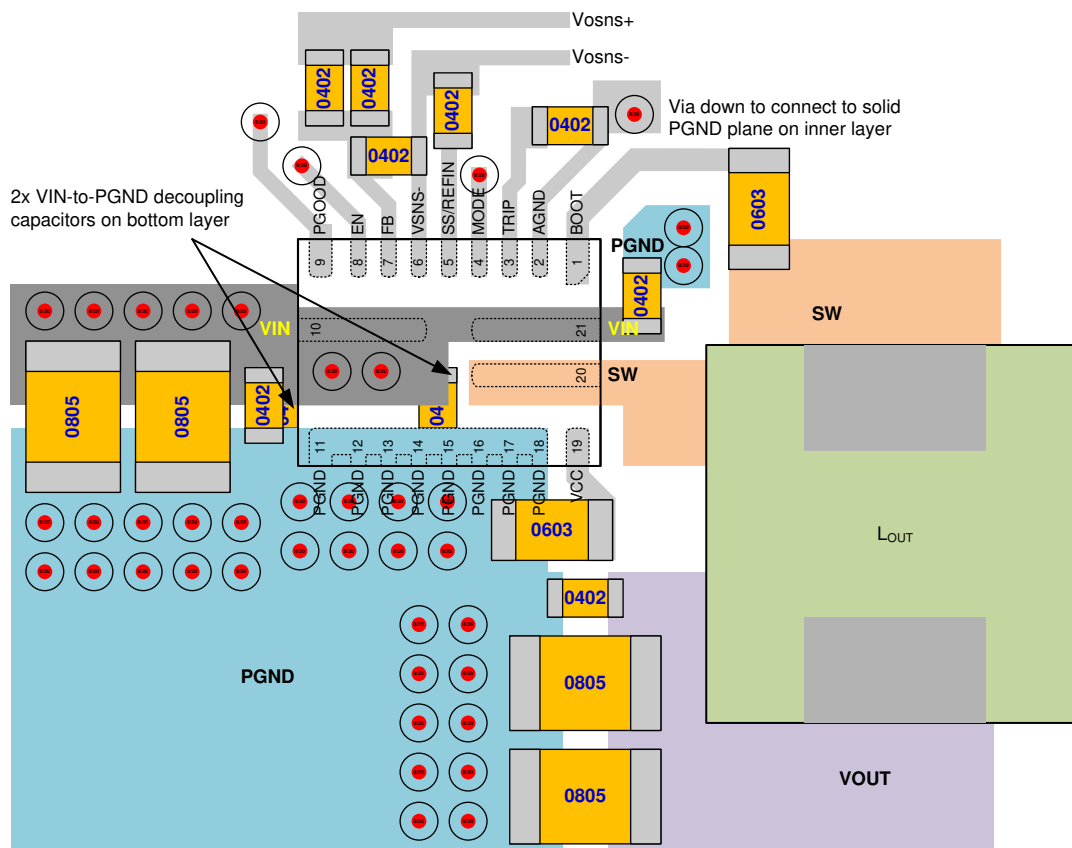

Figure 10-1. Layout Recommendation
- See Figure 10-1 for the layout recommendation.